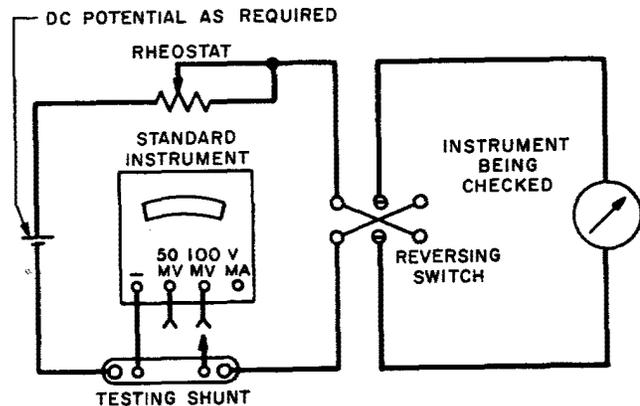

Fig. 14 - Testing Circuit for AC Ammeters Checked at Values Between 3 and 50 Amperes
- (69) **Checking Current:** Proceed as covered in (54).
- (70) **Freedom of Pointer Movement:** Proceed as covered in (55).
- (71) **Accuracy:** Proceed as covered in (56), (57), and (58).
- (72) Proceed as covered in (59).
(74) Remove potentials from the ammeter to be checked and connect it in series with the KS-9442, L21 shunt in the testing circuit Fig. 14. Exercise care in selecting a reversing switch that will carry the current used in testing and a type that will break the current without excessive arcing at the contacts. Wire the reversing switch so that the current through the ammeter is reversed by the operation of the switch.
(88) **Preparation:** Proceed as covered in (73).
(89) Remove current from the primary circuit of the associated current transformer. Disconnect the ammeter from the transformer and short-circuit the secondary terminals of the transformer. Current may be restored to the transformer so long as its secondary terminals remain short-circuited. Connect the ammeter to be checked in the testing circuit Fig. 14.
(90) **Checking Current:** Proceed as covered in (62).
(91) **Freedom of Pointer Movement:** Proceed as covered in (63).
(92) **Accuracy:** Proceed as covered in (64) and (65).
(93) After completing the tests, remove all test connections. Check that no current is flowing in the current transformer primary and remove the short circuit from the secondary terminals. Then restore the ammeter connections.